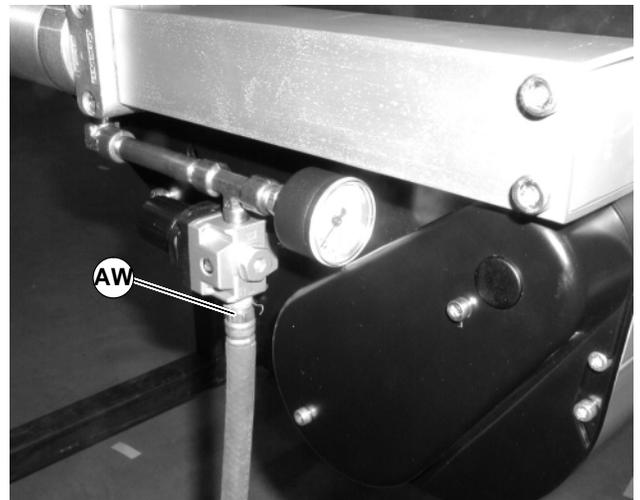

Figure 86
1. Remove air supply and remove hose (AW of Figure 86) from center drive.